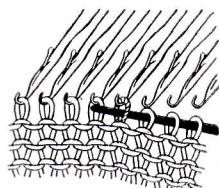

Fig. 48
- d. Transfer the stitches on the knitting needle to the opened hooks of the needles. (See Fig. 48)